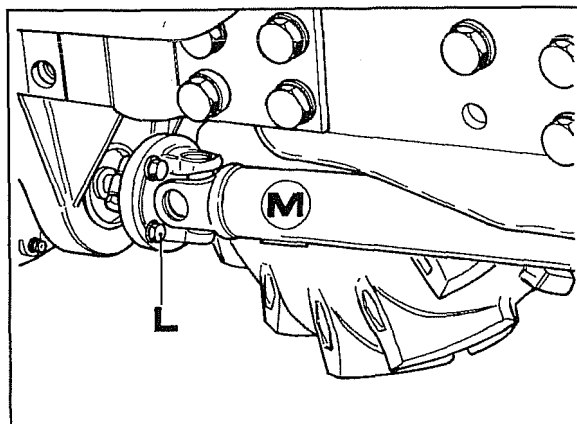

Fig. 17
17. Disconnect dual drive shaft **M** by removing screws **L** Fig. 17, then slip it forward and remove it.